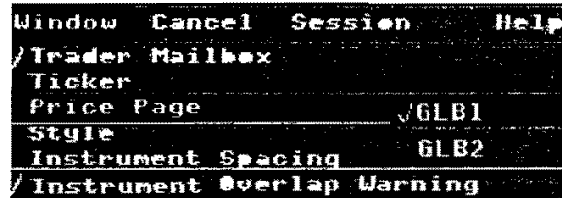

Figure 10.7 Example Price Page Menu
To display, hide, or choose a Price Page, choose Price Page in the Window menu to display the secondary Price Page menu. An example of the menu is shown in Figure 10.7.
- A grayed Price Page Name (GLB2 in Figure 10.7) indicates that the page is unavailable because the trader is not logged into the Service.
- A Price Page name (GLB1 in Figure 10.7) indicates that the page is available to the trader. A check indicates the page is currently displayed.